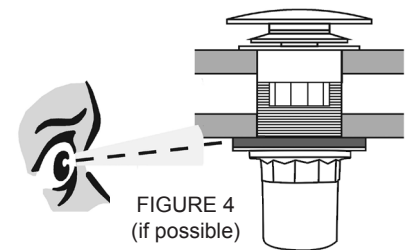

FIGURE 4
12. Fill the tub with water to the overflow and allow to set for 20 minutes, then drain the tub while inspecting the waste connections below the floor for leaks. Access from below will be necessary for this step (figure 4).